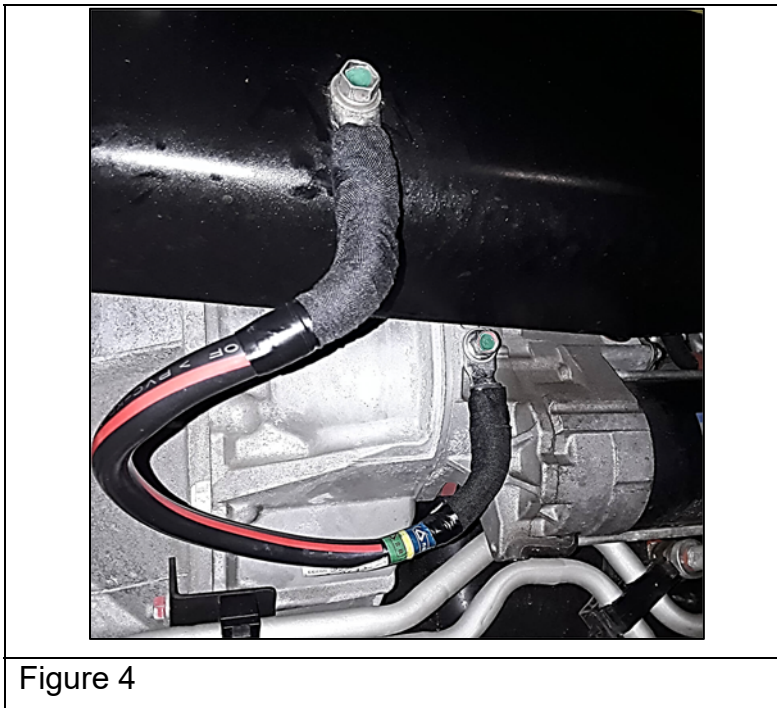

Figure 4
8. Paint the bolt heads with high visibility paint marker after proper torque has been completed. See Figure 4.